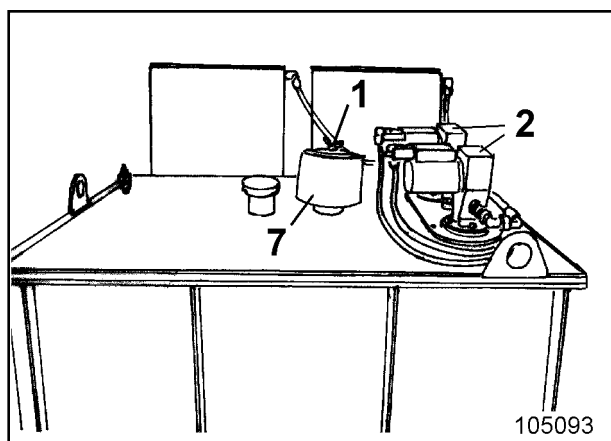

Fig. 5
- Unscrew wing nut (1, Fig. 5).